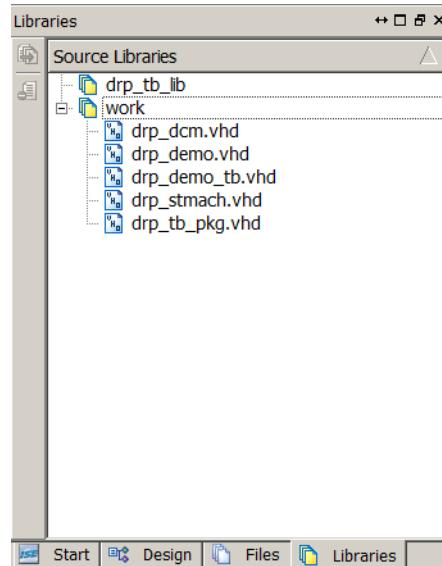

Figure 2-5: Libraries Panel
2. Expand the **/work** library (see Figure 2-5.)